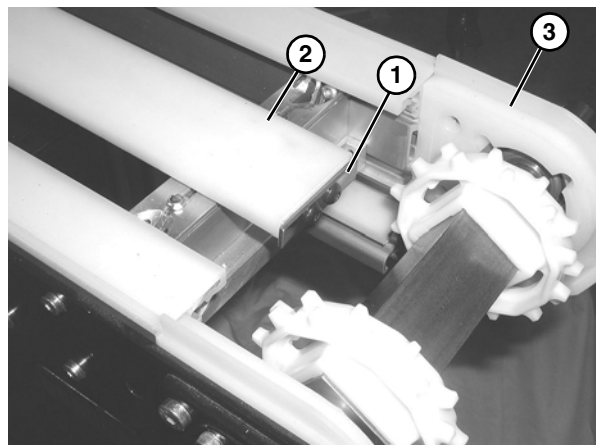

Figure 25
*The stop plate (**Figure 25, item 1**) on the center wear strip (**Figure 25, item 2**) faces the drive end (**Figure 25, item 3**) of the conveyor.*